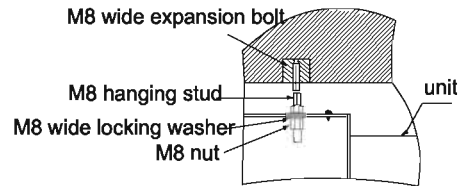

Fig.5
- Hang the unit as shown in Fig. 5.